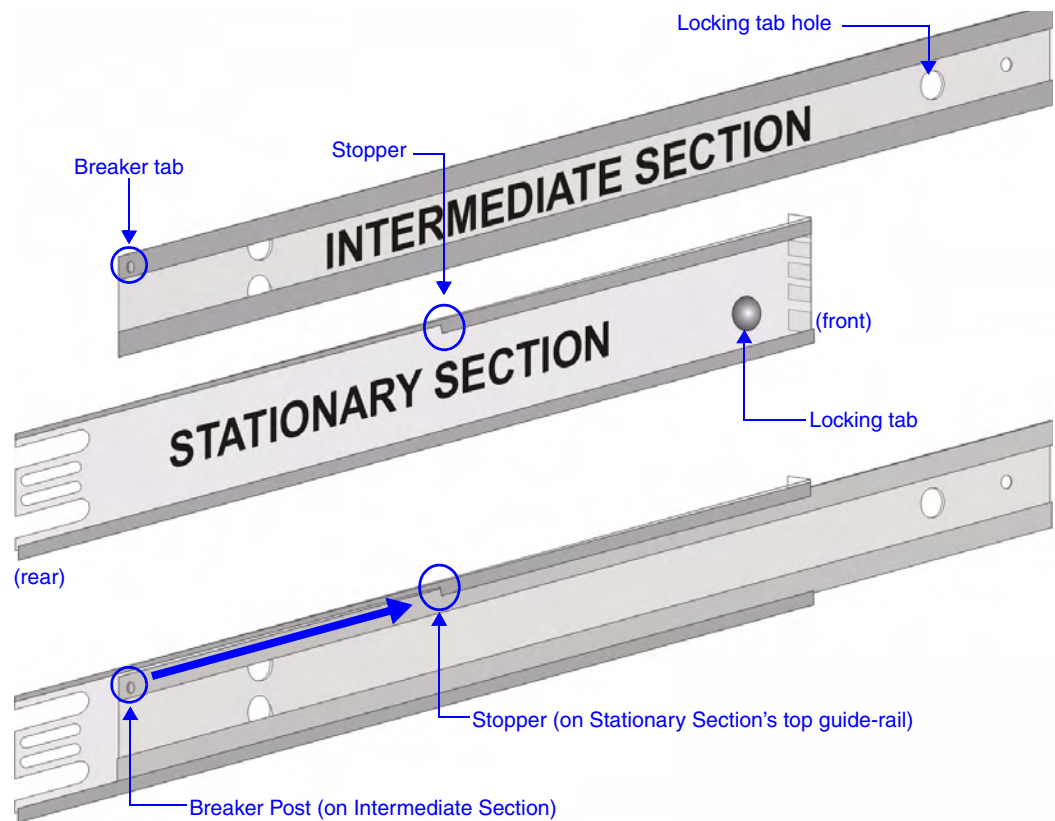

**FIG. 58** Attaching the Chassis Sections to the server chassis
2. Install the chassis sections onto the MAX server chassis using 4 flat-head PHILLIPS screws (included) per side, as shown in FIG. 58.